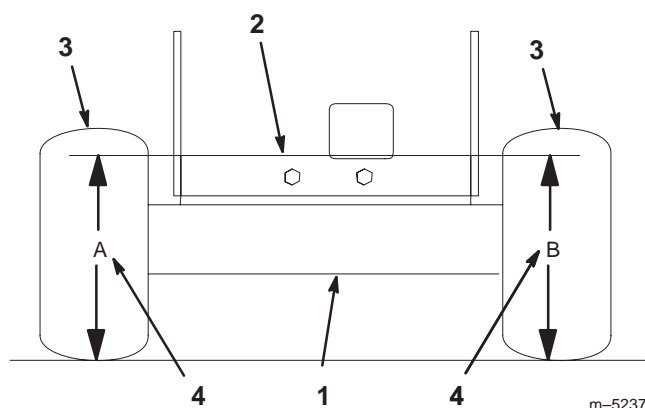

Figure 61
4. Measure engine deck height at location **A** (Fig. 61).
5. Measure engine deck height at location **B** (Fig. 61).